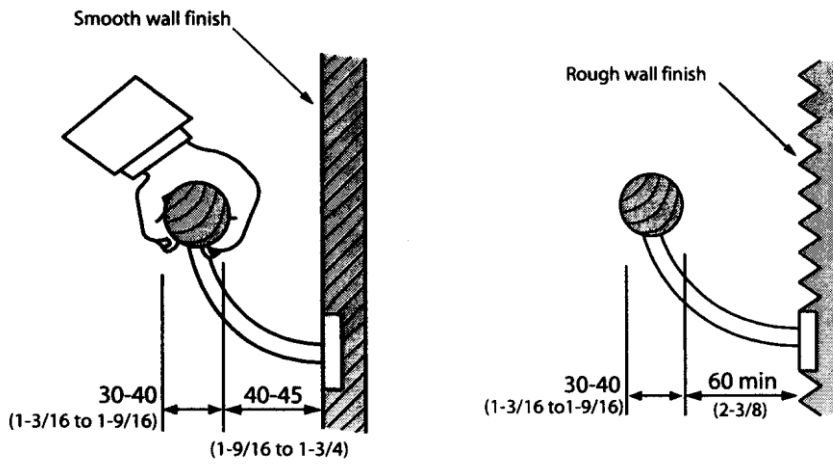

Figure 7
- Have a clear space between the handrail and the wall of 35-45mm ( $1\frac{2}{5}$  –  $1\frac{4}{5}$  inches) or at least 60mm ( $2\frac{2}{5}$  inches) where the wall has a rough surface. This distance from the wall is essential to provide sufficient clear space for the hand and the knuckles, but must not offer space into which the arm may slip during a fall or stumble. Illustrated in COL Figure 7 on the following page.